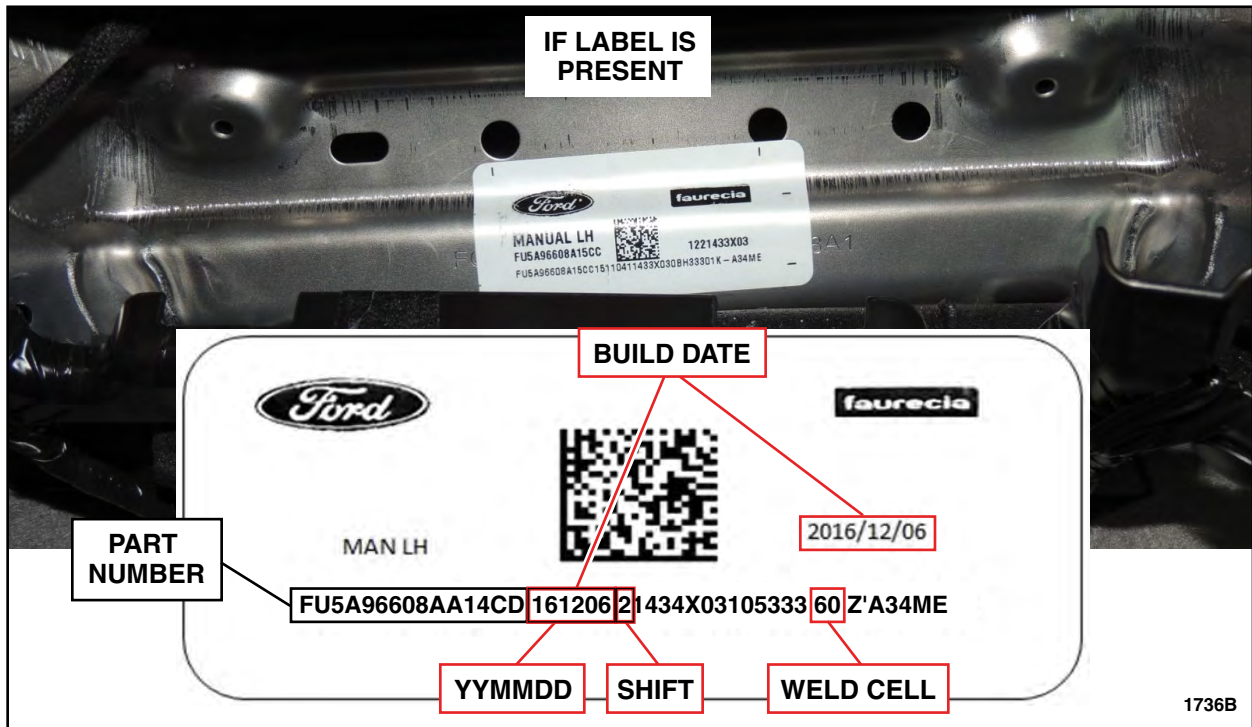

FIGURE 10
11. Determine the driver seat backrest frame build date and shift build, which will be listed on a label or engraved on the backrest frame assembly. See Figures 10 and 11.